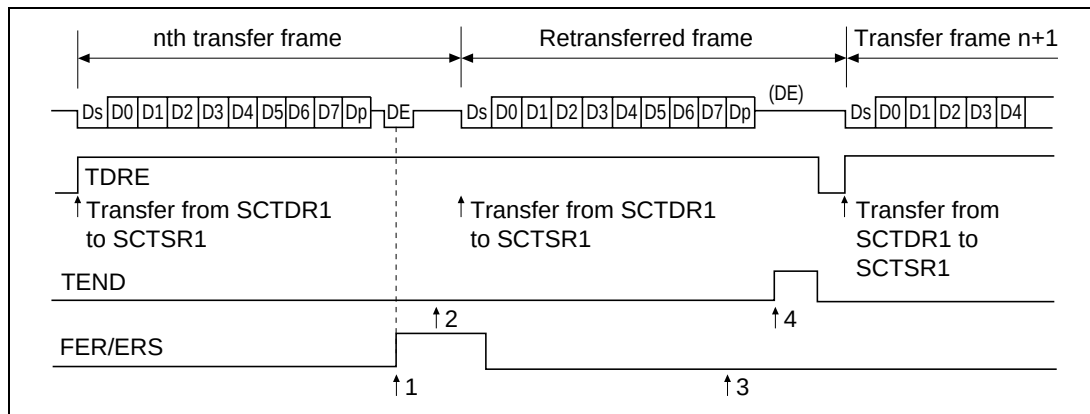

**Figure 17.12 Retransfer Operation in SCI Transmit Mode**
**Retransfer Operation when SCI is in Transmit Mode:** Figure 17.12 illustrates the retransfer operation when the SCI is in transmit mode.